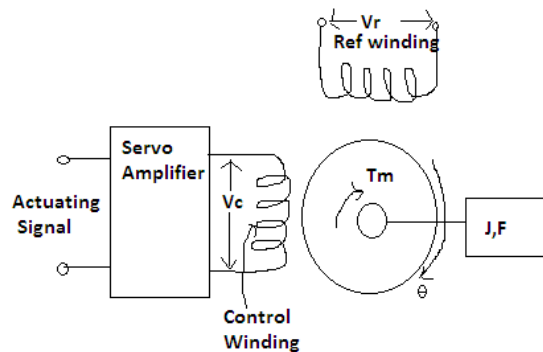

Fig2. Schematic Diagram of Two phase motor
2. In servo applications, the voltage applied to the two stator windings are seldom balanced one. One of phase is known as reference phase is excited by constant voltage and the other known as the control phase w.r.t. the voltage supplied to the reference winding and it has a variable magnitude and polarity. The control winding is supplied from a servo amplifier. Fig 2.